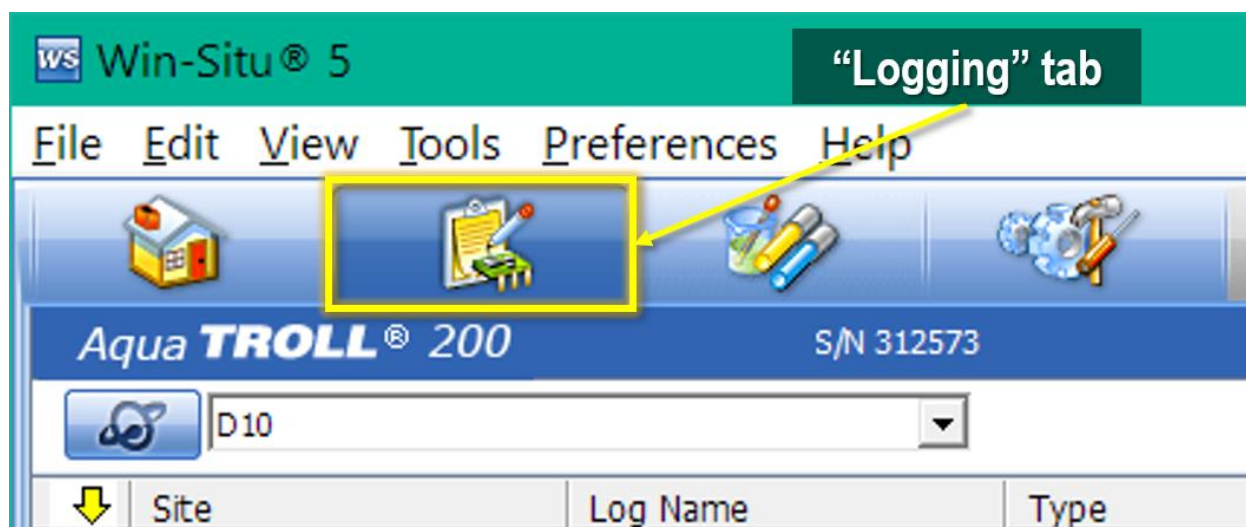

Figure 21. Select the "Logging" Tab
2. Select the **Logging** tab in the upper right-hand corner of the window (Figure 21).
13. Select the **Logging** tab in the upper right-hand corner of the window to cease logging (Figure 21). This step is to verify the Aqua TROLL is not logging post-refresh or to turn off logging.